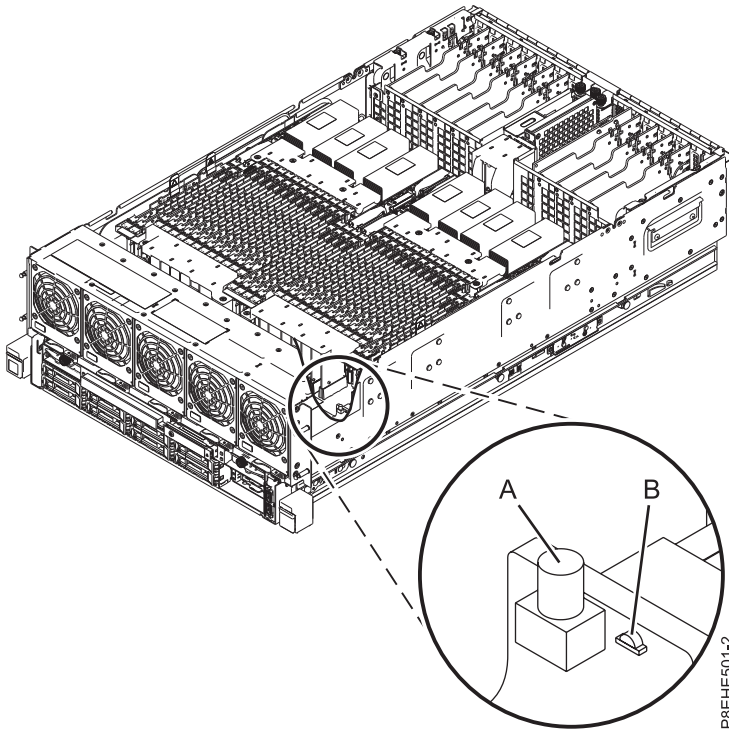

Figure 10. Activating the identify LED
2. Press the push button **(A)** as shown in Figure 10 on page 20, to activate the identify LED. Verify whether the LED **(B)** is lit, which indicates there is sufficient power supply to the identify LED. If the LED **(B)** is not lit, use the location code to find the physical location by using the service label.